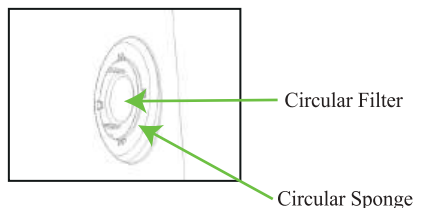

Figure 9
- Pull out the filter, and replace it with a new one (see Figure 9);